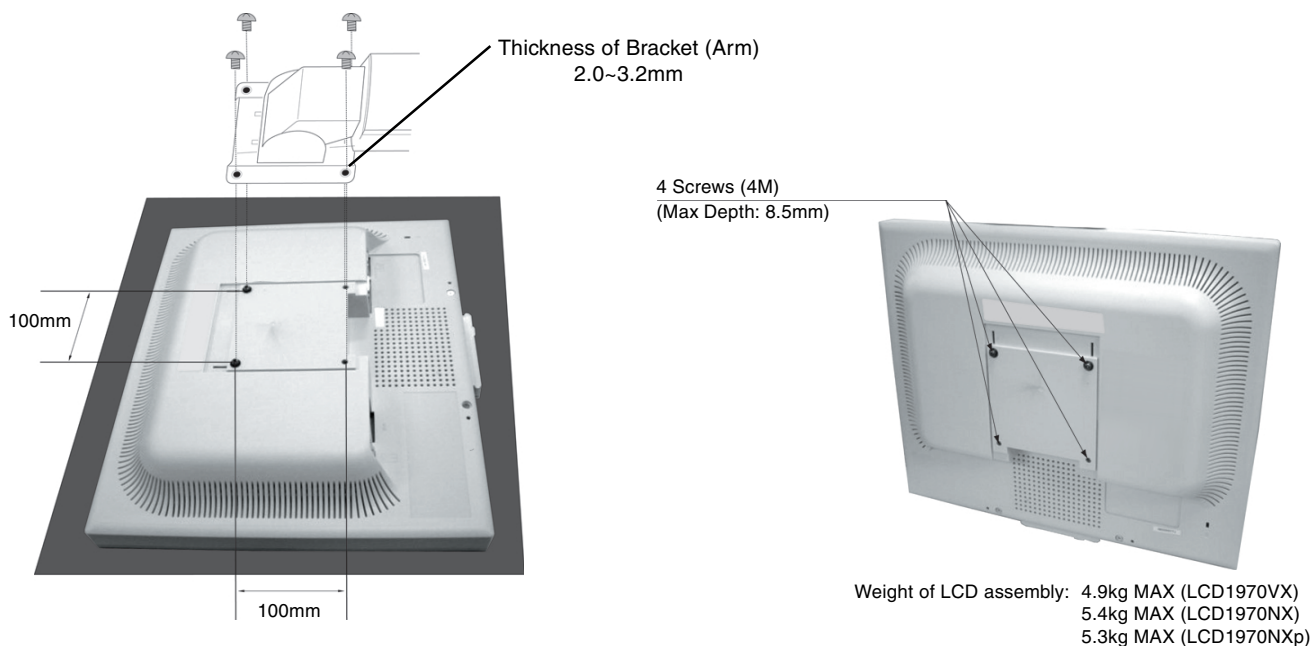

Figure F.1
2. Using the 4 screws from the stand removal and attach the arm to the monitor (**Figure F.1**).